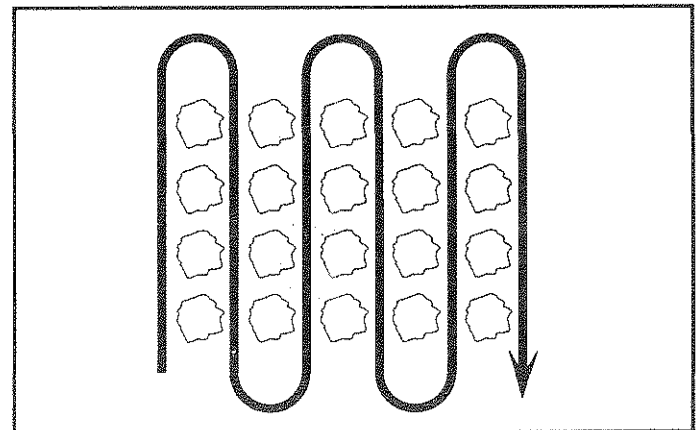

FIG. 10
- Place throttle control in slow position (midway between "FAST" and "IDLE"). Cultivate up and down the rows at a speed which will allow tines to uproot weeds and leave the ground in rough condition, promoting no further growth of weeds and grass (See Fig. 10).